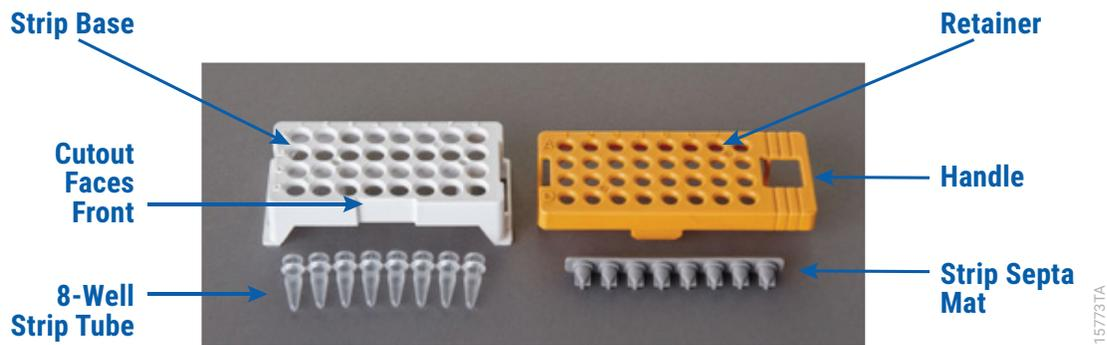
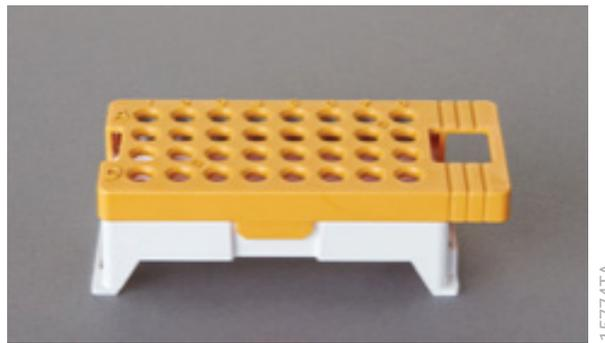

Figure 2. Assembling the Spectrum Compact Strip Base and Retainer.
Figure 3. Assembled Spectrum Compact Sample Cartridge.
Samples prepared in 8-well strip tubes are assembled into the strip base and retainer (Figure 2) to form the sample cartridge (Figure 3), which can be loaded onto the Spectrum Compact CE System. Samples are injected in groups of four, such that one 8-well strip tube can be used for two injections. Each 8-well strip tube corresponds to one lane (A, B, C or D) of the sample cartridge. Samples are injected in groups of four across a lane (not by column). For example, samples in well positions A1 through A4 are injected together, followed by samples in well positions A5 through A8 for the second injection. This pattern is then repeated for samples in lanes B, C and D. Refer to the *Spectrum Compact CE System Operating Manual #TMD058* for information on changing the order of injections during run setup.
1. Place the 8-well strip tube(s) with the Strip Septa Mat, 8-well, into the strip base (Figure 2). When using fewer than 4 strips in the run, you can place the strips in any lane.
2. To complete the assembly, place the retainer over the strip(s) in the strip base, aligning the lane names A to D and well numbers 1 to 8 on the retainer to those on the strip base and pressing until the retainer clicks into the strip base (Figure 3).